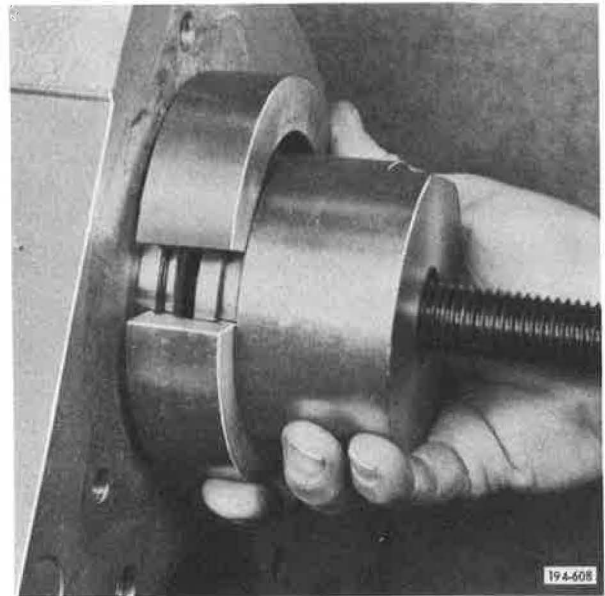

Figure 5-284. Installing Puller and Second Clamping Half
16. Install puller section of tool S593C and second clamping half. See Figure 5-284.